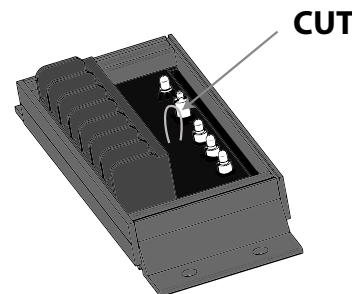

Figure 2d. Cut the Regulation Select wire loop.
3. A loop of wire protrudes from the epoxy. Cut the loop with wire clippers to switch the regulation method to Slow Switching. See Figure 2d.